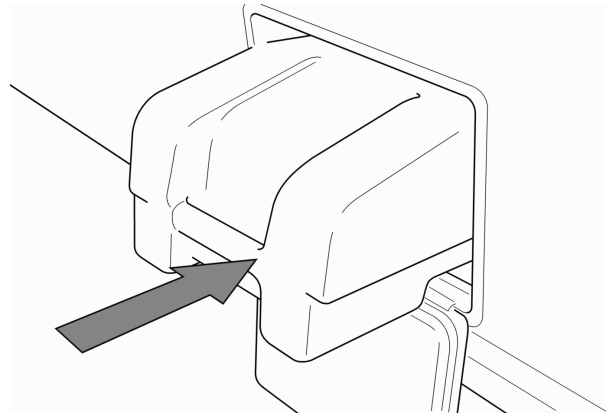

Fig. 6 Carefully lift tank and re-locate in dedicated storage position.
9. The system is now ready for use. Hose can be inserted into plug groove (fig. 6) to keep filter off the ground while refilling water container. Keep socket lid shut at all times when plug is removed.